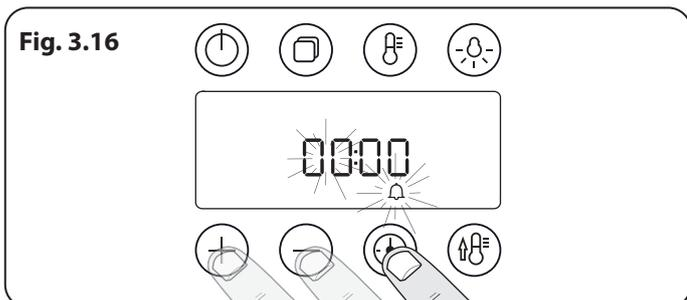

Fig. 3.16
1. Tap the timer button once to enter the minute minder (**Fig. 3.16**).
2. The hours will start to flash. Set the hours using the [+] or [-] buttons (**Fig. 3.16**).